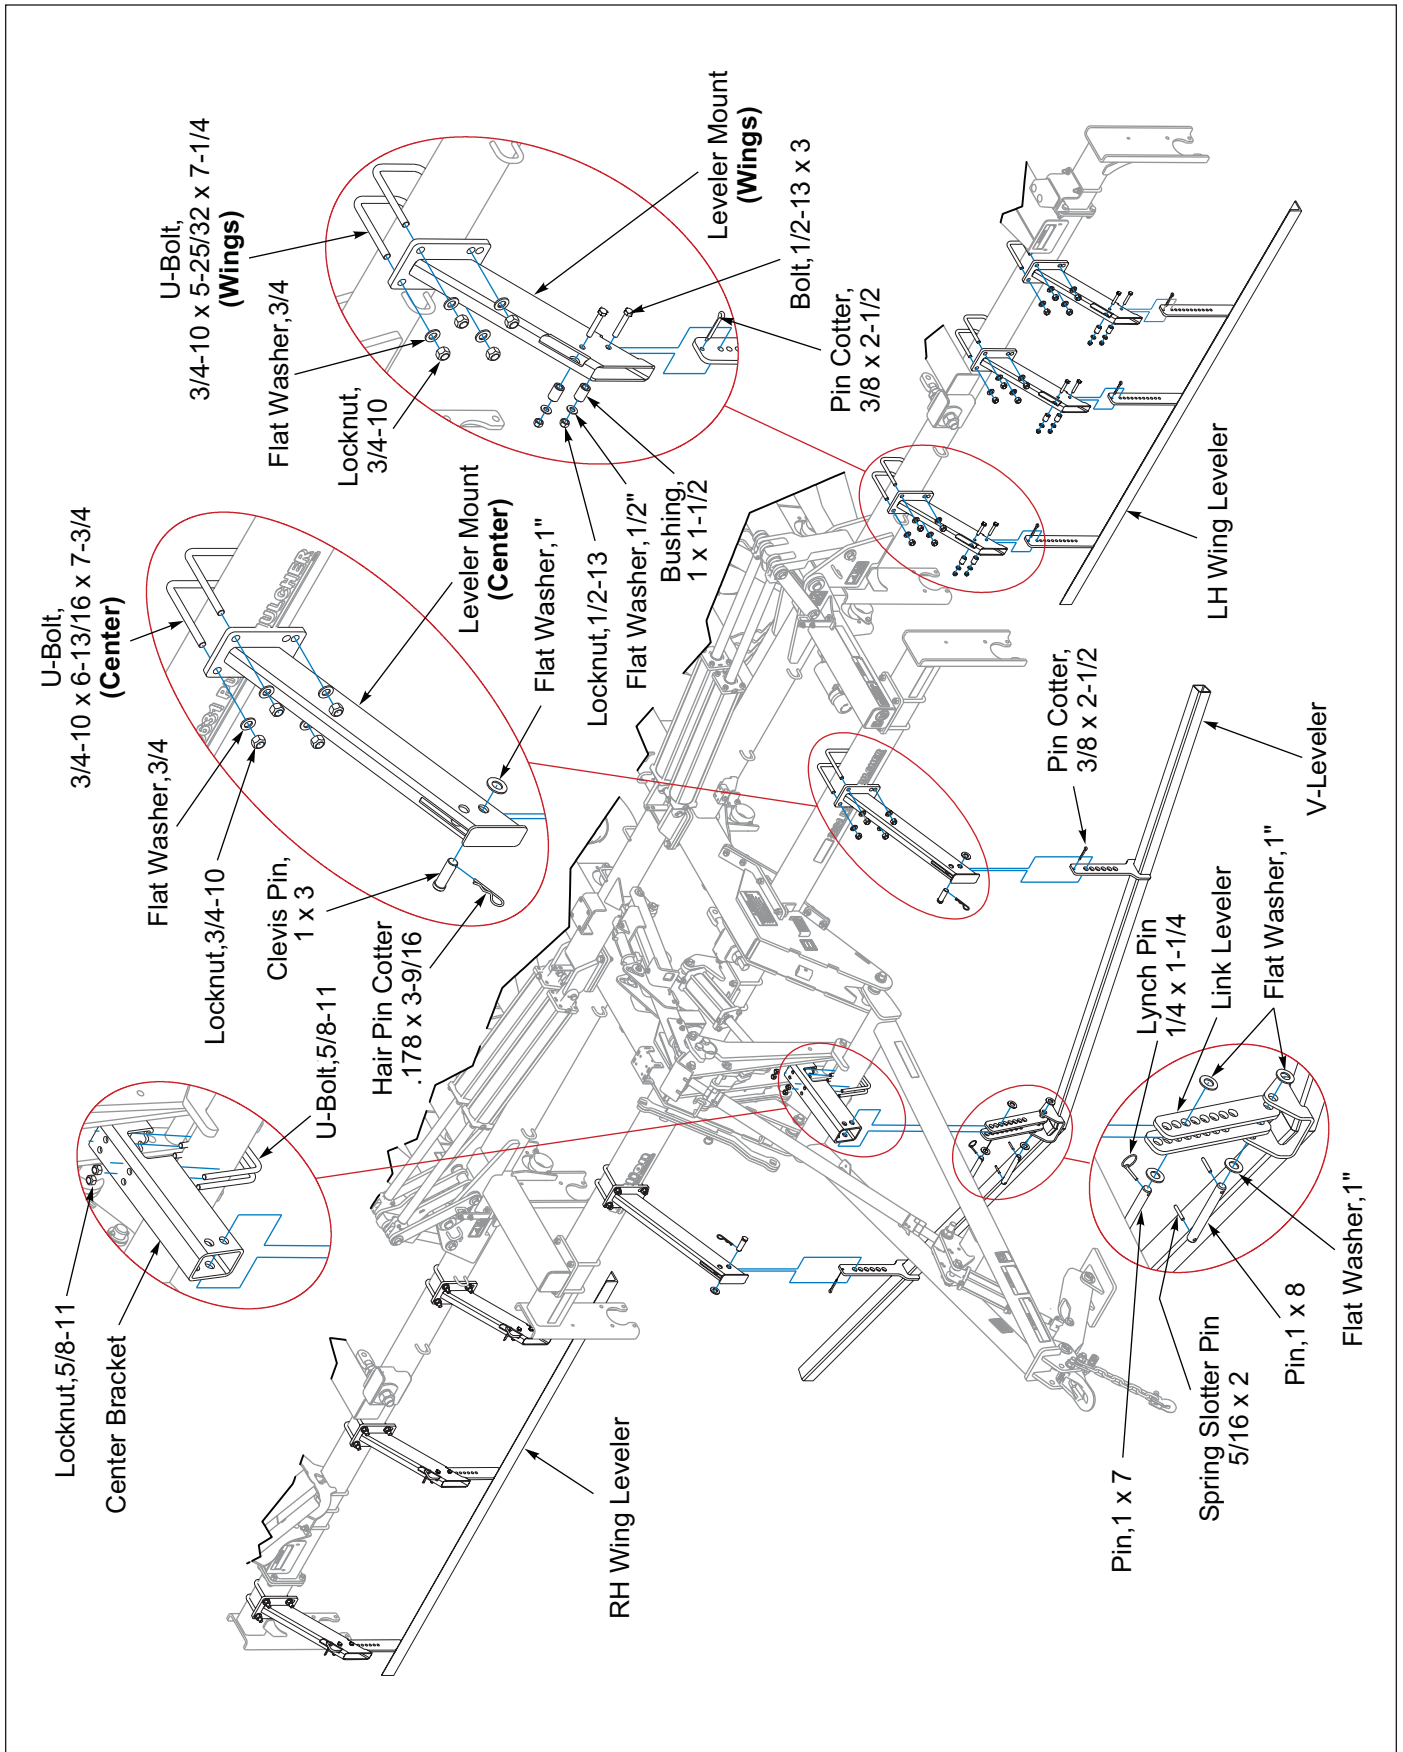

Figure 2-98: V-Leveler Installation - Optional
1. Place the cutout of the V-Leveler Bracket on top and center it on the Drawbar Rear Cross Tube. Secure with 5/8-11 U-Bolts and Locknuts. **See Figure 2-98.**
1. Attach the Leveler Mounts to the Front Wing Frame Tube with 3/4-10 x 5-25/32 x 7-1/4 U-Bolts, Flat Washers and Locknuts. **See Figure 2-98.**